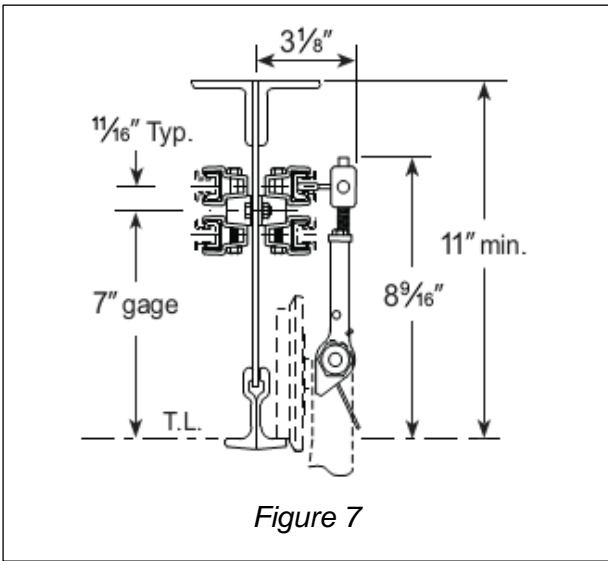

Figure 7
- Figure 7 – Side Contact conductor bar mounted on 200 Series Girder Rail used as a Monorail or a Crane Bridge, with Electrical Collectors mounted on a typical trolley.